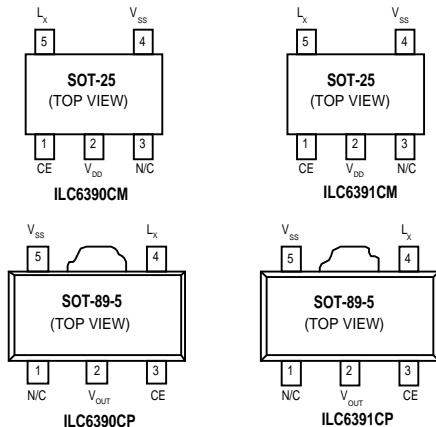

**Figures 3 & 4**
1. The Schottky diode (S.D.), in figure 3 must be type MA735, with Reverse current ( $I_{R}$ )  $< 1.0\mu A$  at reverse voltage ( $VR$ )= $10.0V$
$V_{OUT} = 5.0V$   $T_A = 25^\circ C$ . Unless otherwise specified,  $V_{IN} = V_{OUT} \times 0.6$ ,  $I_{OUT} = 50mA$ . See schematic, fig. 3 & 4.